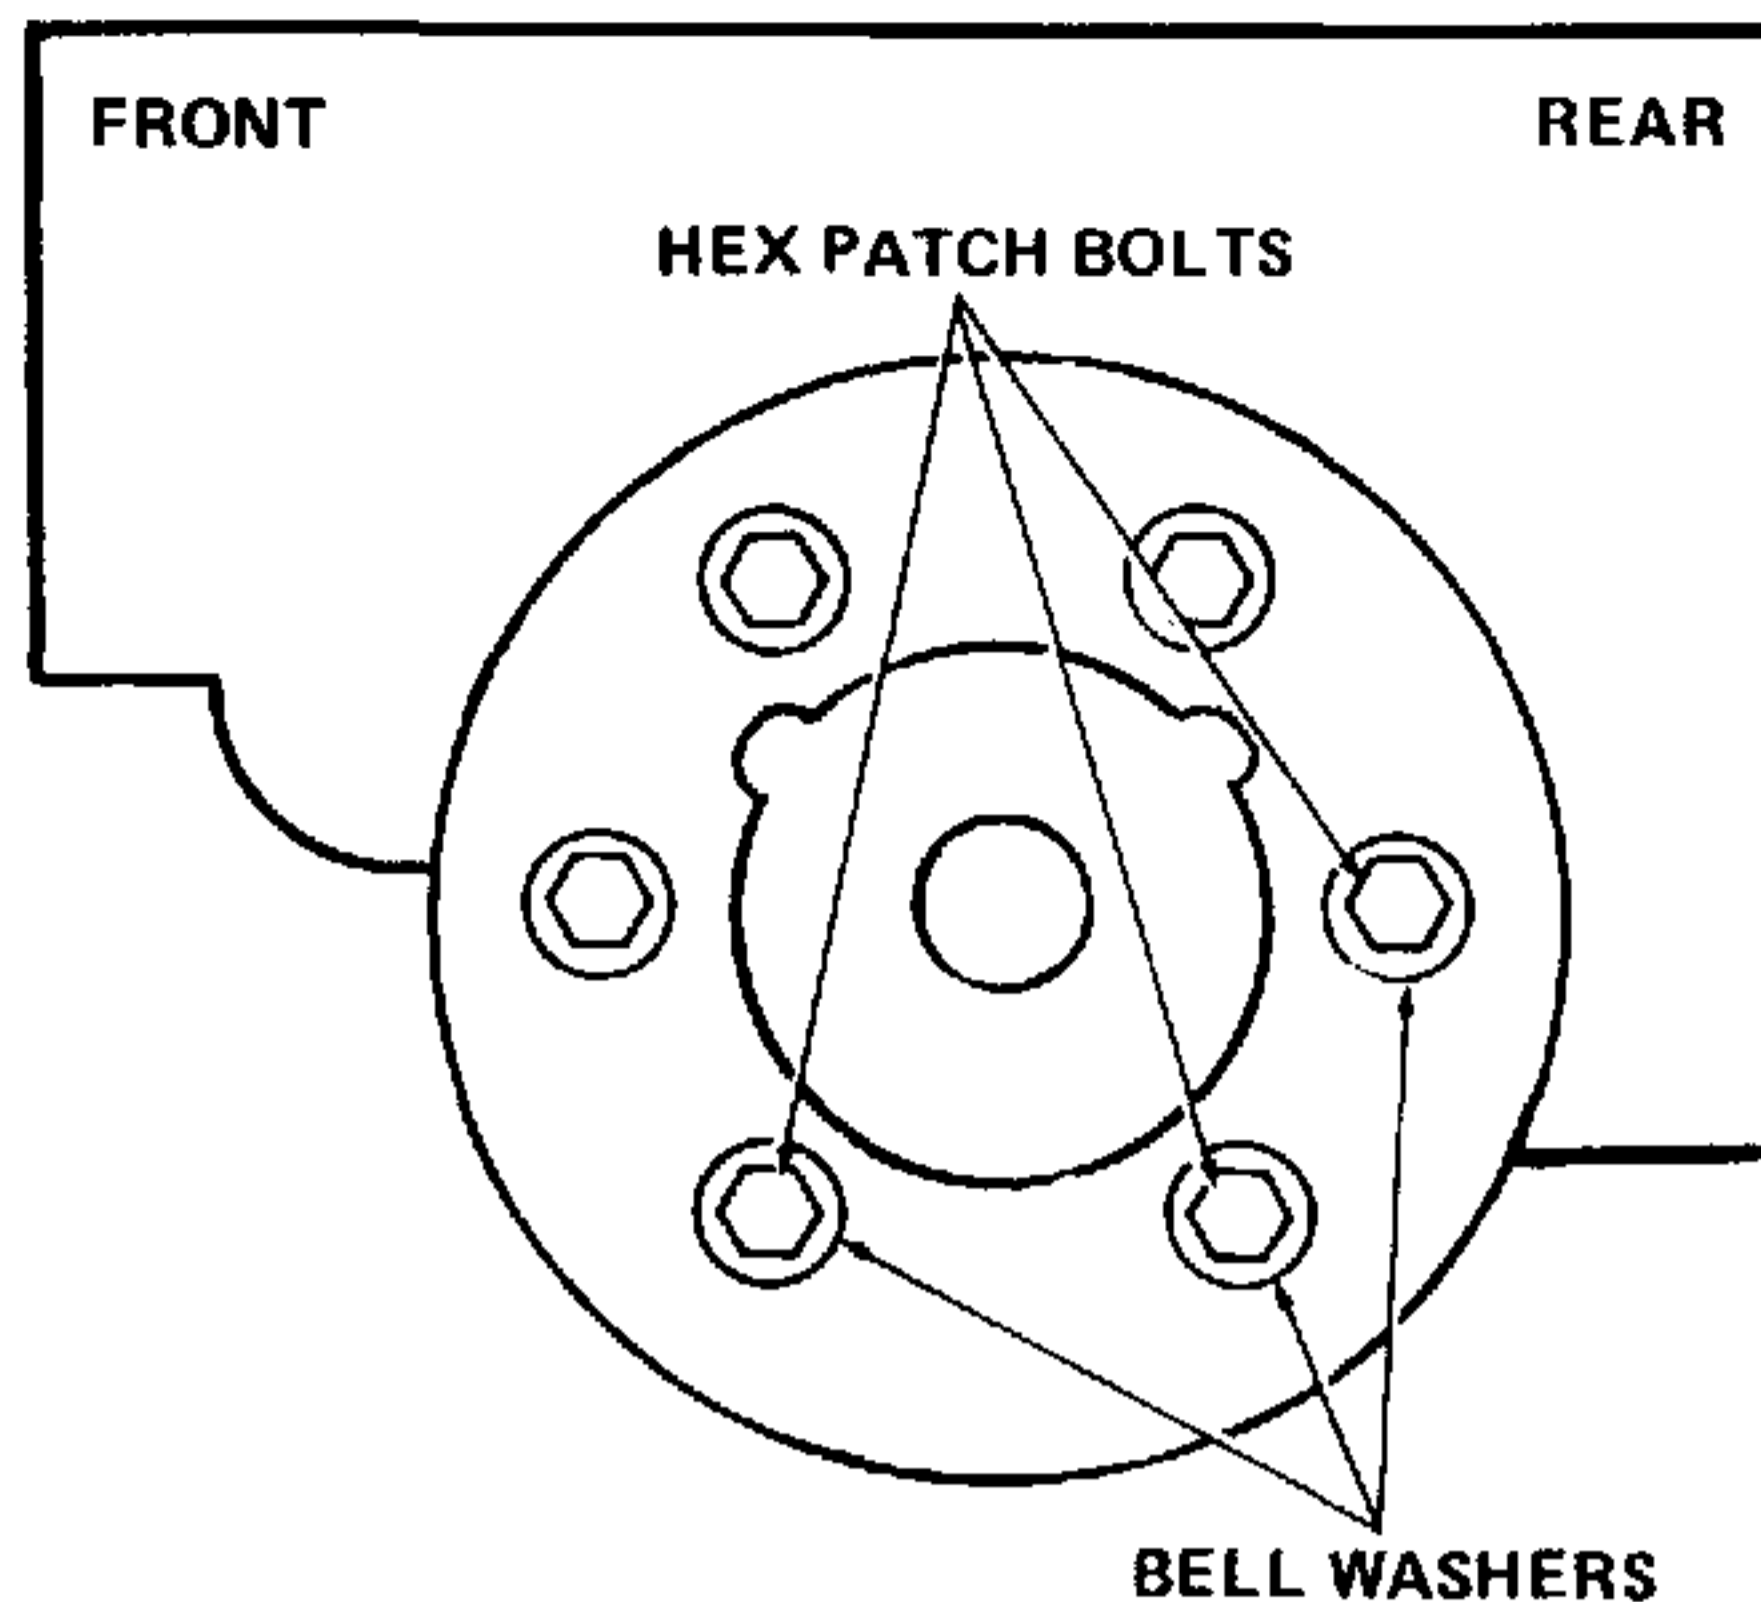

Figure 7-9. Lower Link Support Plate Hardware.
- a. At each horn assembly on transaxle, remove lower three hex patch bolts and bell washers. Save bell washers and discard bolts. Refer to Figure 7-9.